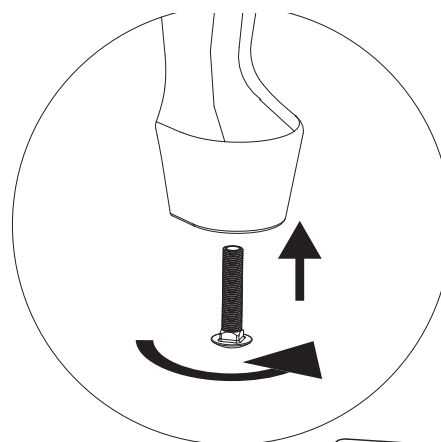

Figure 21.3
11. Using two bolts and two flange nuts to secure ARS channel using 3/8 open end wrench and 7/16 socket wrench (**Figure 21.3 on page 21**).
7. Use leveling bolts on legs to stabilize and level appliance (**Figure 21.3**).